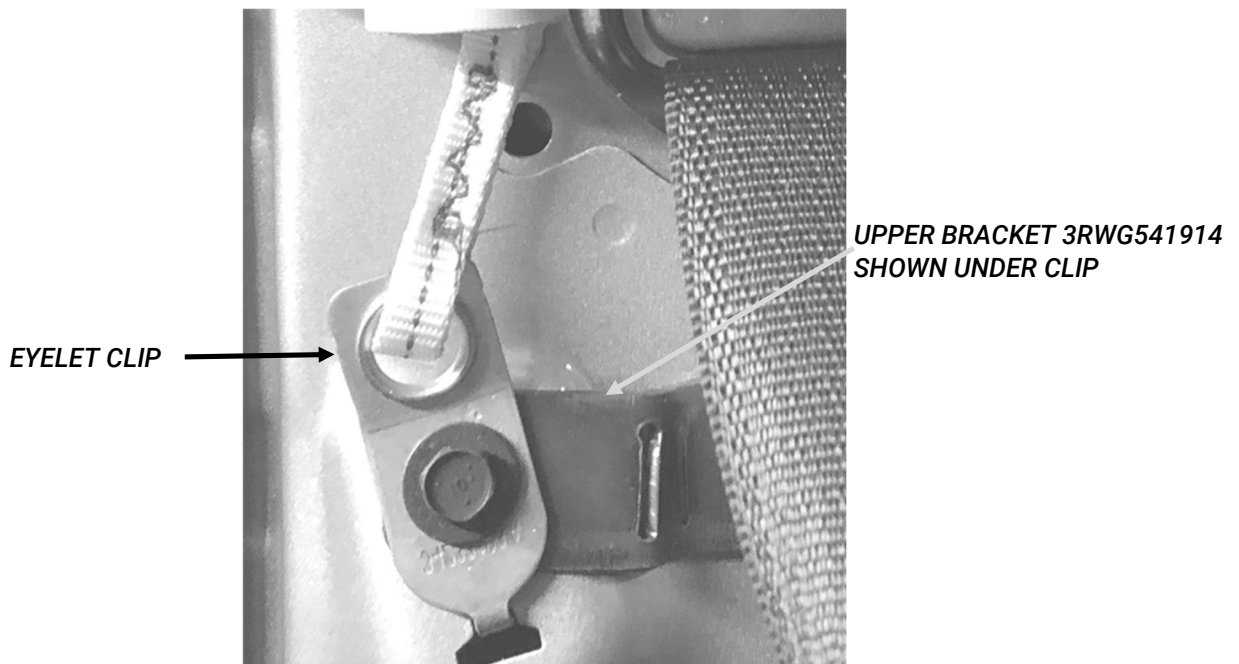

Figure 2
- A. Remove lower tether eyelet clip using 7mm socket and remove trim. (Fig. 2)